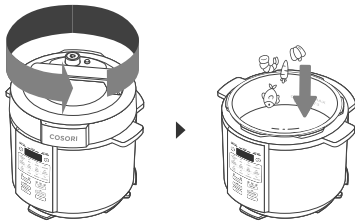

Figure 4.1
1. Twist the lid counterclockwise and lift to remove. Add the ingredients to the inner pot. [Figure 4.1]